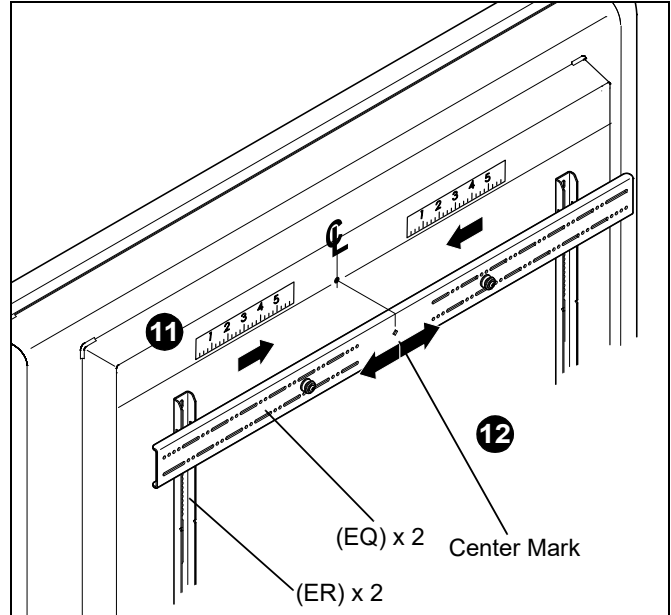

Figure 6
13. Determine and mark the horizontal center position between the Left and Right *TOP* mounting holes in display. (See Figure 6)
14. Determine and mark the horizontal center position between the Left and Right *BOTTOM* mounting holes in display. (See Figure 6)
15. Orient upper horizontal mounting bracket (EQ) so that flanges are facing towards display and resting in recessed area of left and right vertical mounting brackets (ER). (See Figure 6)
16. Adjust Upper horizontal mounting bracket (EQ) position until center diamond in horizontal mounting bracket (EU) aligns with mark made in Step 9, and mounting holes and slots in horizontal mounting bracket (EQ) are aligned with threaded holes in mounting tabs of left and right vertical mounting brackets (ER). (See Figure 6) and (See Figure 7)